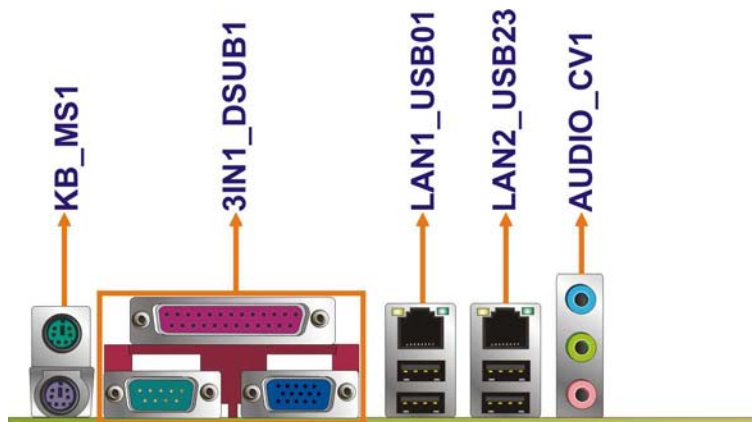

Figure 4-18: IMB-Q354 External Peripheral Interface Connector
Figure 4-18 shows the IMB-Q354 external peripheral interface connector (EPIC) panel.
- CN Location:** See **Figure 4-18**
- CN Location:** See Figure 4-18
CN Location: See **Figure 4-18**
A 25-pin parallel port connector, a male DB-9 serial port (COM1) and a female DB-15 VGA connector are integrated into a single EPIC connector as shown in **Figure 4-18**.